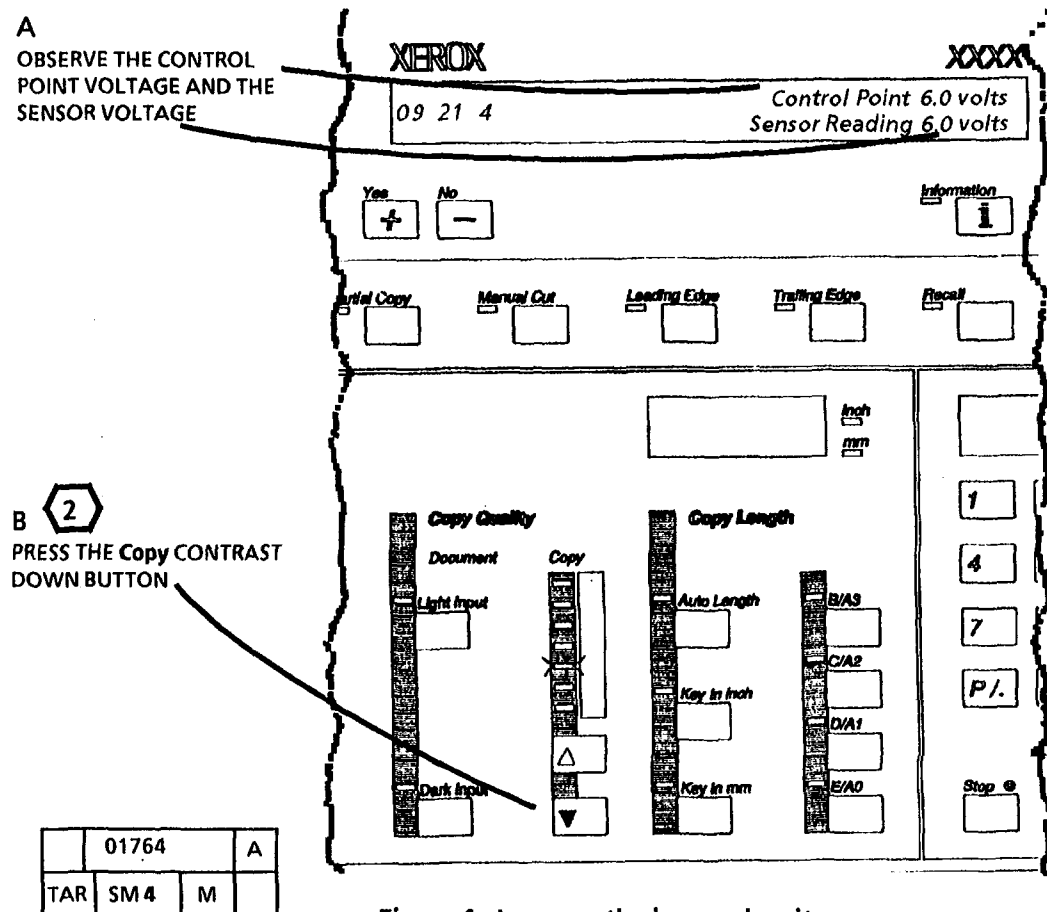

Figure 1. Increase the image density
**2** **STEP 3 B:** Each time the Copy contrast down button is pressed, the next lower LED will be lit, indicating a lower Control Point setting. A control point of 5.3 is the lowest sensor voltage that can be attained. Do not move more than (2) increments at one time. This may result in a fault.
3. (Figure 1): Increase the Image Density.